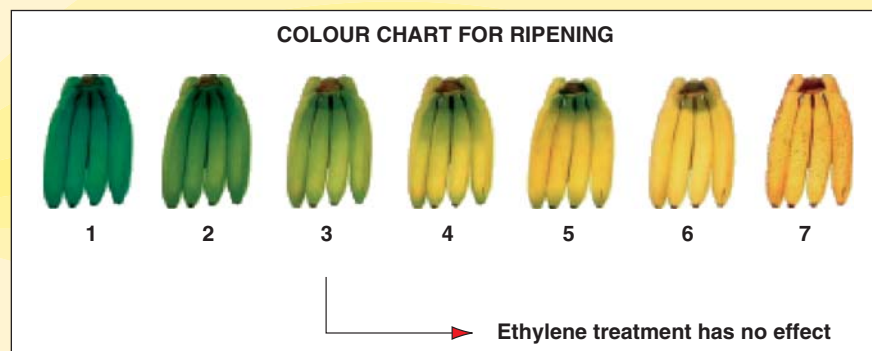

Figure 11. Colour guideline for ripening.
- To some extent it is possible to control when bananas should be matured for sale, based on Figure 11. The needs of the market and price will have some influence on the desired ripening time. The manager of the ripener must determine a ripening regime based on the needs of the market, the quality of bananas, the condition in which they arrived and the general behaviour of bananas from particular growers during ripening.